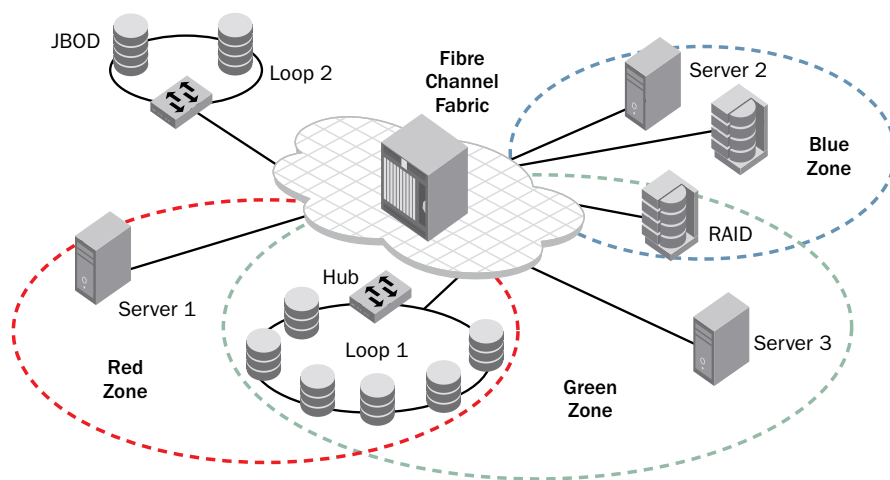

Figure 42: Example of single initiator zones.
- Create zones with only one initiator (shown in Figure 42) and target, if possible.